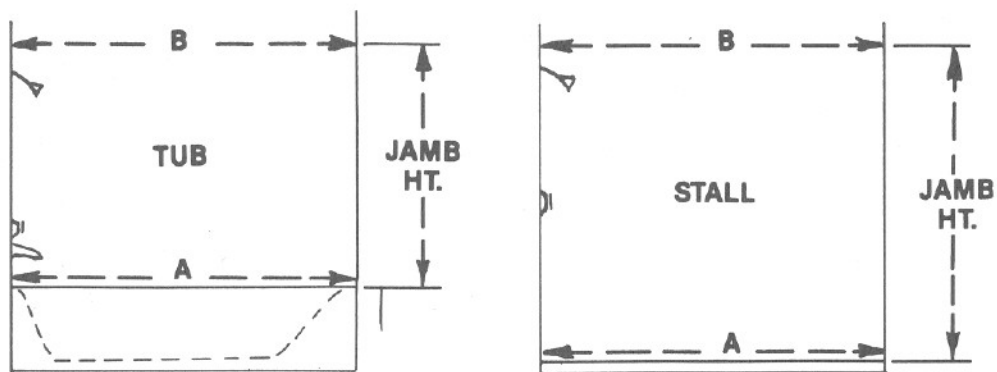

FIGURE 1
1. **MEASUREMENTS:** Measure wall to wall length at the tub rim or stall base. Mark and cut track with hack-saw 1/2" shorter than opening. Always re-check your measurements before cutting track. See measurement "A" FIGURE 1. **IMPORTANT:** Do not drill holes in tub. Use adhesive to adhere track to base.
Measure wall to wall opening at jamb height of tub or stall. Mark and cut header with hack-saw 1/16" shorter than wall to wall measurement at the unit height. Always re-check your measurements before cutting header. See measurement "B" FIGURE 1.